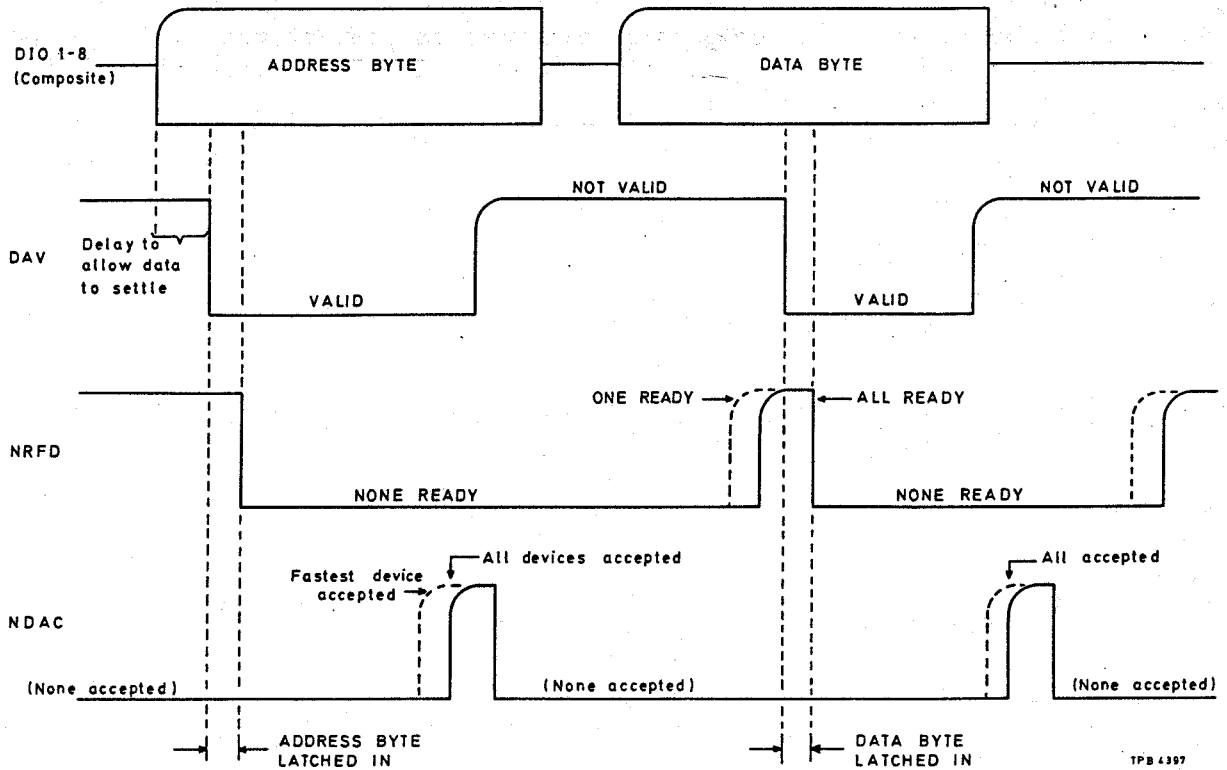

Fig. 46 Handshake procedure
- (v) Talker removes DAV, listeners assert NDAC, and the bus reverts to its initial condition ready for the next data byte, a typical cycle is shown below in Fig. 46.